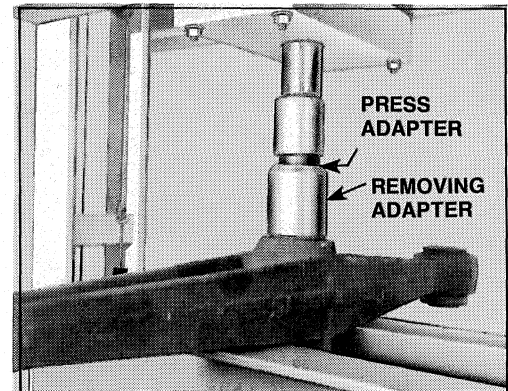

FIGURE 1
3. Place the equalizing beam in a shop press as shown in Figure 1. Position the proper Removing Adapter (Item 2 for the 34,000 lb. axle or Item 4 for the 38,000 and 44,000 lb. axle) over the bushing to be removed. Place the Press Adapter (Item 6) on top of the removing adapter (See Figure 1).